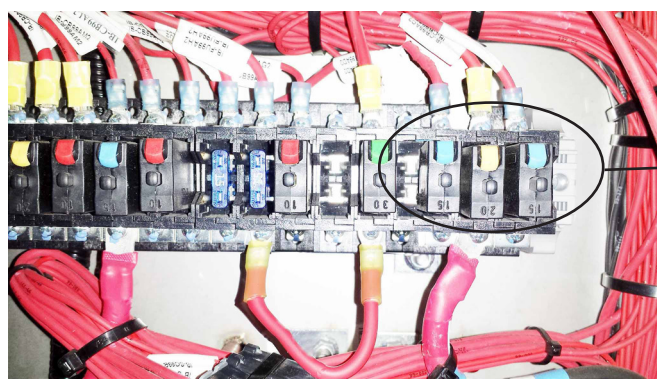

Figure 25 - Circuit Breaker
Circuit Breaker See Figure 25 and 27.
1.46. Move 3 Breakers and wires one space to the right. See Figure 25